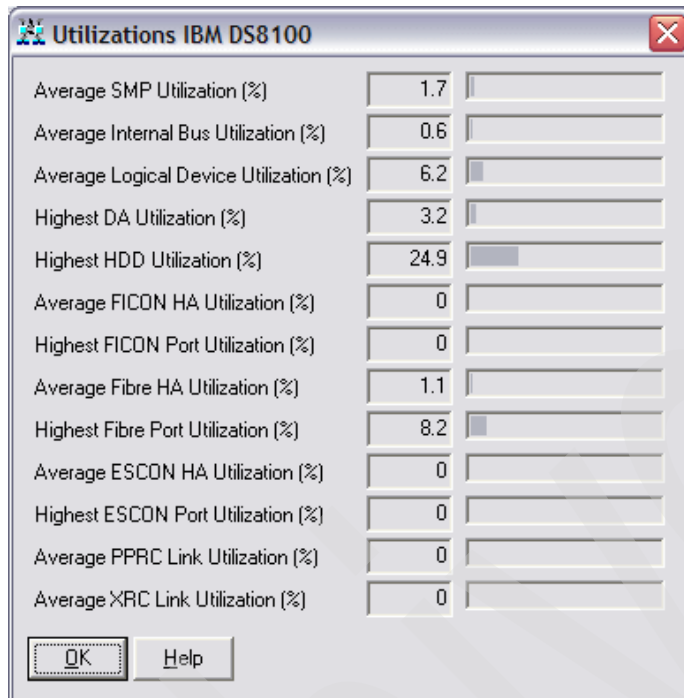

Figure 4-67 Modeled utilizations
- o. In the Utilizations IBM 8100 window, observe the modeled utilizations of DDMs (HDDs), FC adapters, and average utilization of LUNs for both workloads. See Figure 4-67.